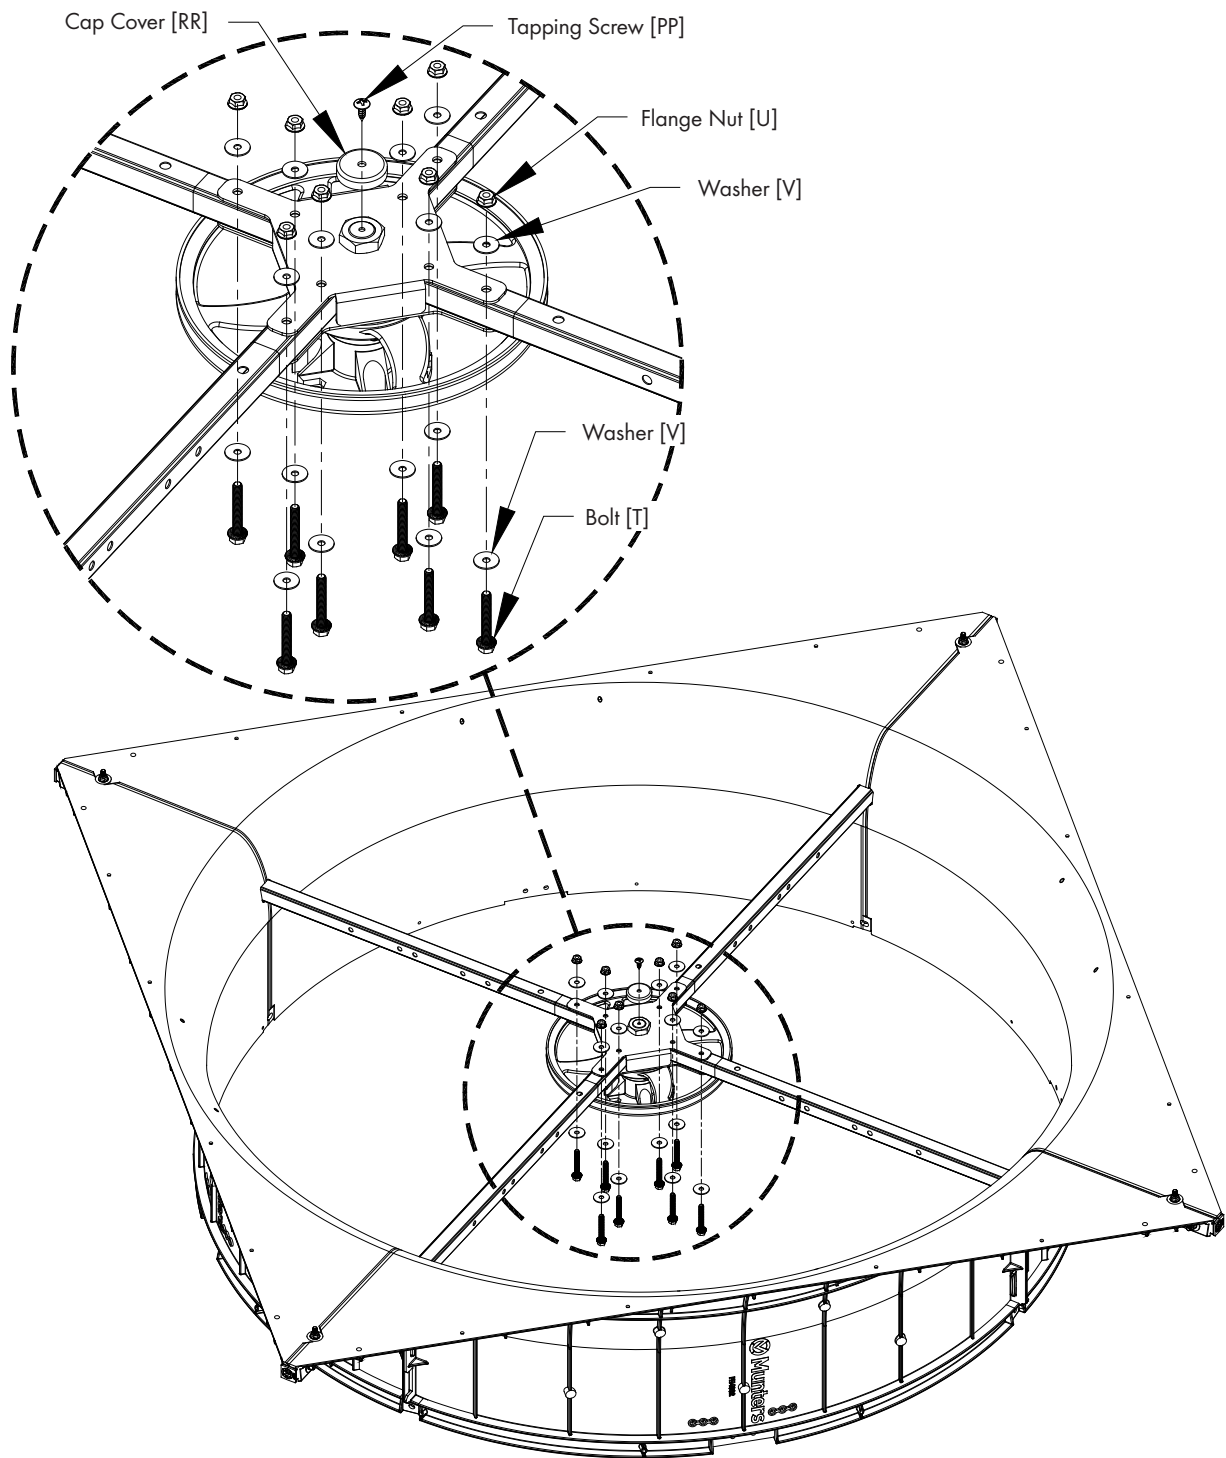

Figure 7
See Figure 7. Place Plastic Cap Cover [RR] over Hex Nut and fasten in place with (1) Tapping Screw [PP].
See Figure 7.